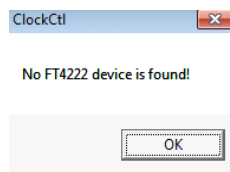

Figure 4. PCIe Clock/Buffer GUI Main Window
4. Connect the 9ZXL1951D board to the computer using the supplied USB cable. Double-click on the application file *ClockCtl.exe* to start the PCIe GUI support application. The PCIe Clock/Buffer GUI main window appears (see Figure 4). If no board is connected, the following message will appear: